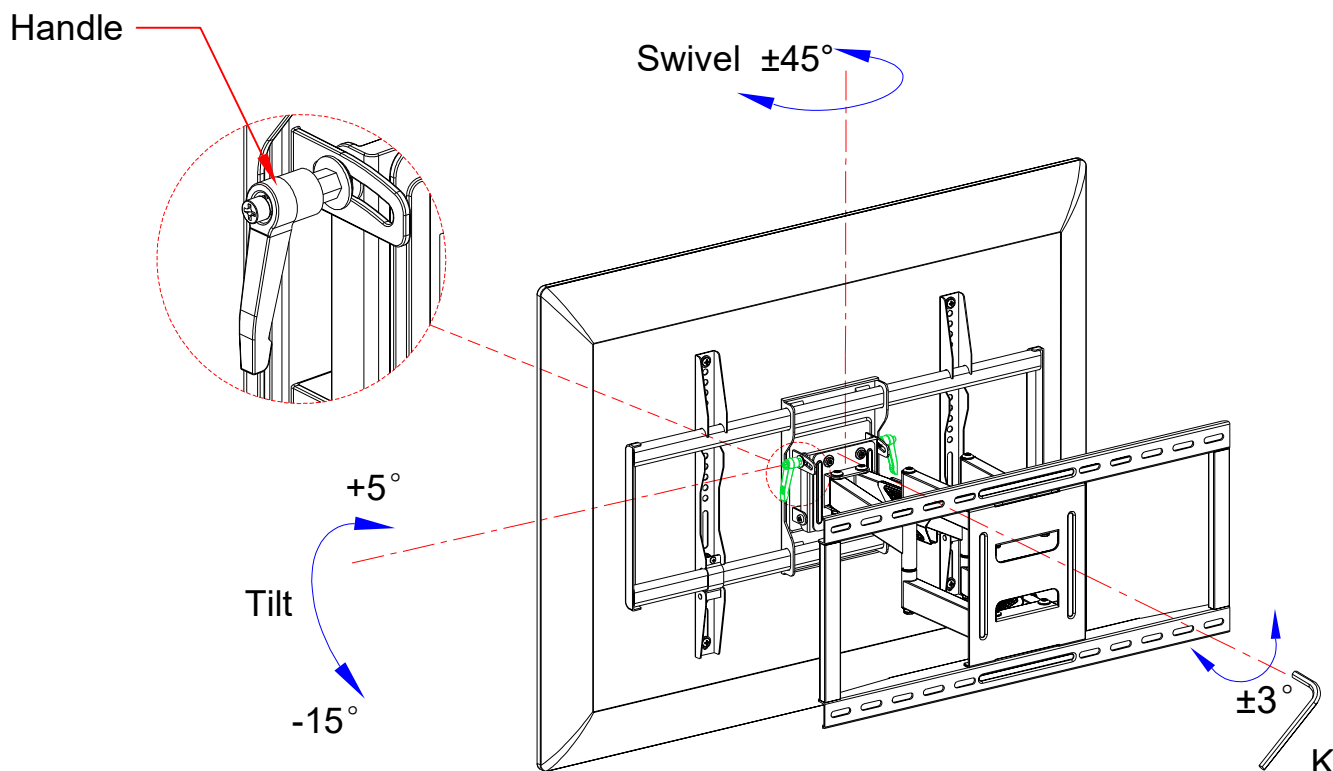

Figure 8
Step 4: You may need to loosen the handle to adjust TV to your desired angle, please remember to fasten the handle tightly after adjustment. (Figure 8)